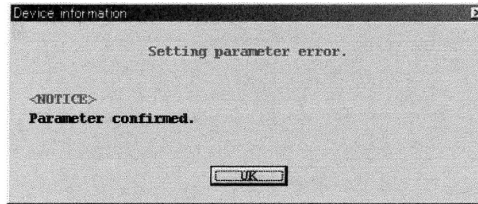

Fig.132
- ① With all menu items selected and "OK" button clicked, when an error is found in any of these settings, a warning error box appears as shown in Fig. 132. Click on "OK" and correct the wrong entry.